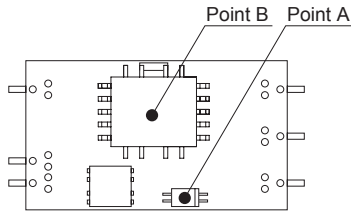

Fig.8.11 Temperature Measuring Points in the case of Forced Air Cooling
(3) Temperature Measuring Points in the case of Forced Air Cooling (1m/s)
① SU6
■ In the case of forced air cooling, please have sufficient ventilation to keep the temperature of point A in Fig.8.11 at 95°C or below and that of Point B at 115°C or below.